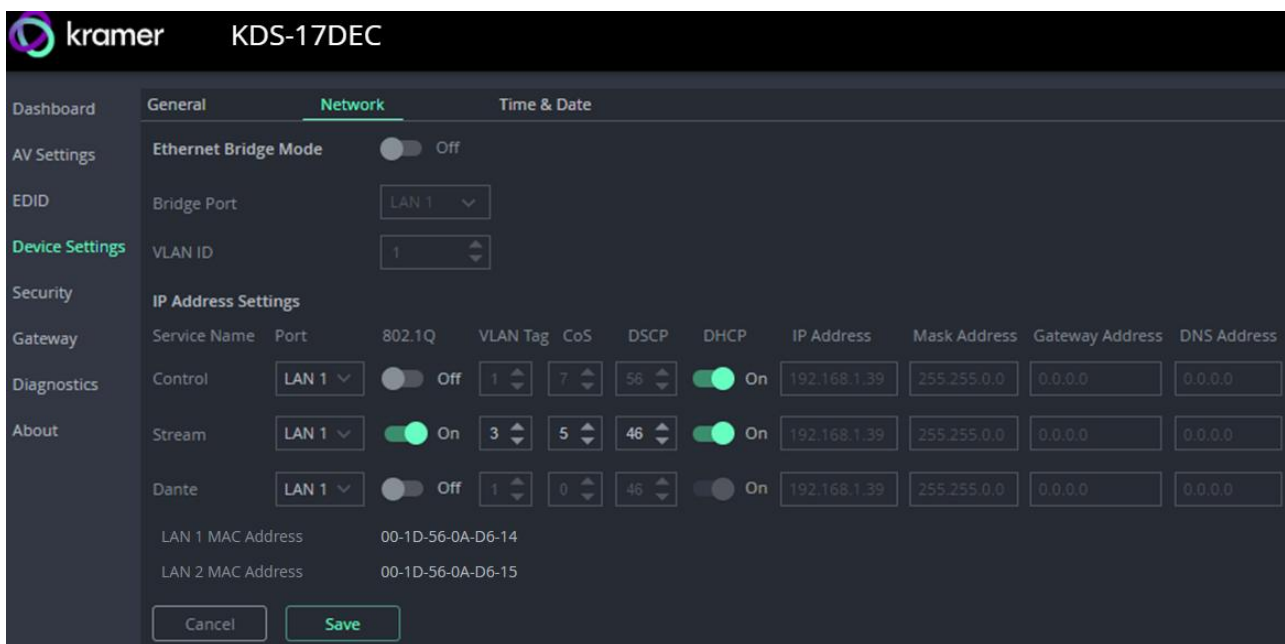

Figure 62: KDS-17DEC - Device Settings pane – Network Tab
1. Change the following settings in the **IP Address Settings** section of the **Network** tab (see Figure 62 for more information):